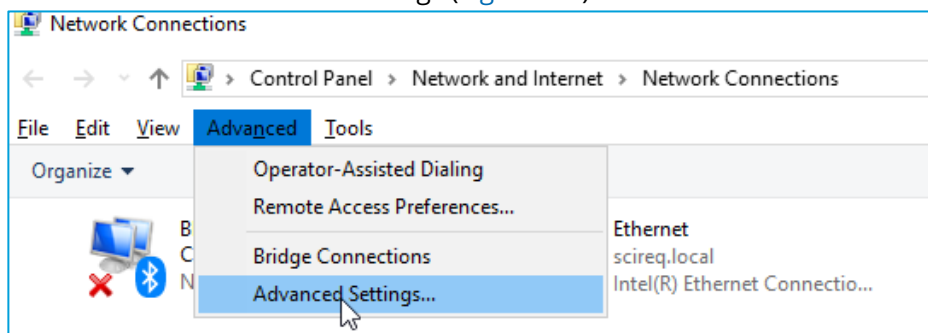

Figure 3-4: Advanced Settings menu item
- » Click Advanced->Advanced Settings (Figure 3-4)